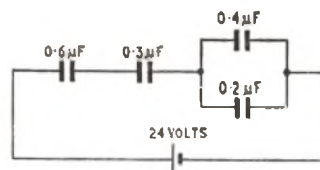

Fig. 2.
Q. 6. For the circuit shown in Fig. 2,